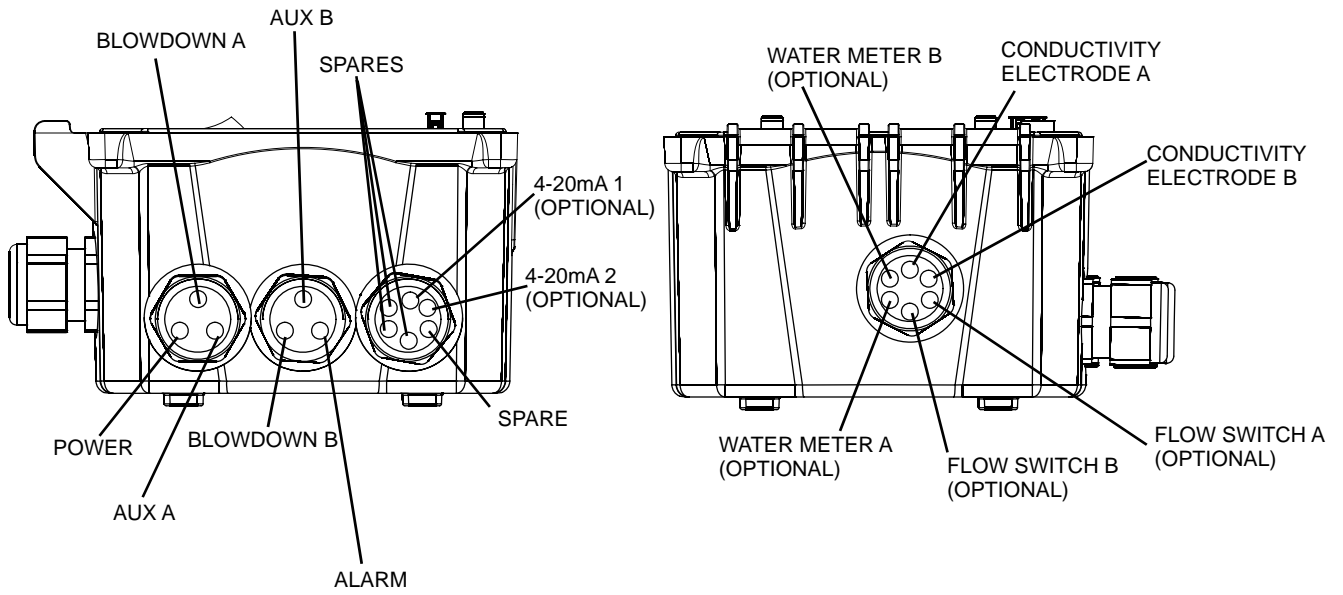
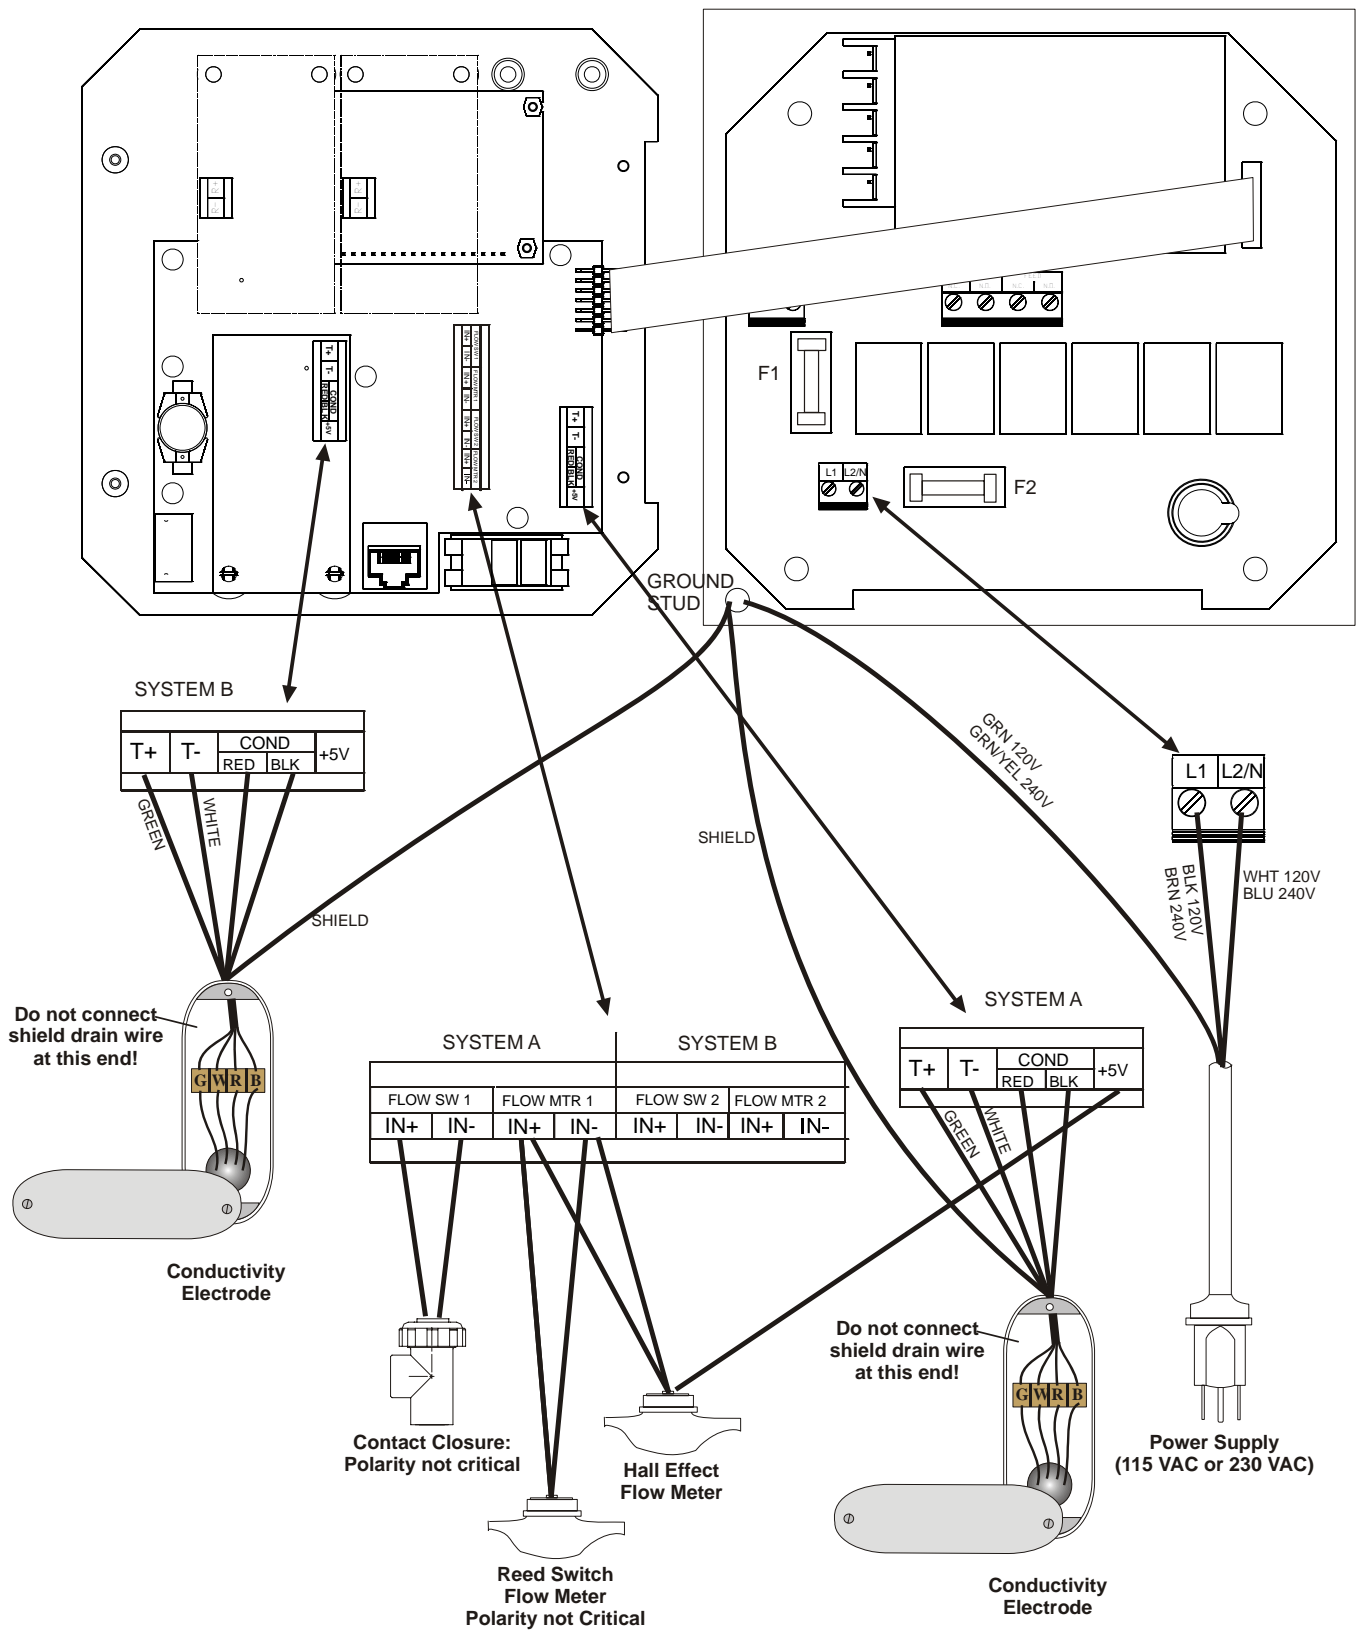

Figure 3 Conduit/Wiring Configuration
Figure 4 Inputs
The various standard wiring options are shown in figure 3, below. Your WDB series controller will arrive from the factory prewired or ready for hardwiring. Depending on your configuration of controller options, you may be required to hardwire some or all of the input/output devices. Refer to figures 4 and 5 for circuit board layout and wiring.
2. When wiring the optional flow meter contactor input, the 4-20 mA output or a remote flow switch, it is advisable to use stranded, shielded, twisted pair wire between 22-26 AWG. Shield should be terminated at the controller ground stud (see figures 4 and 5).